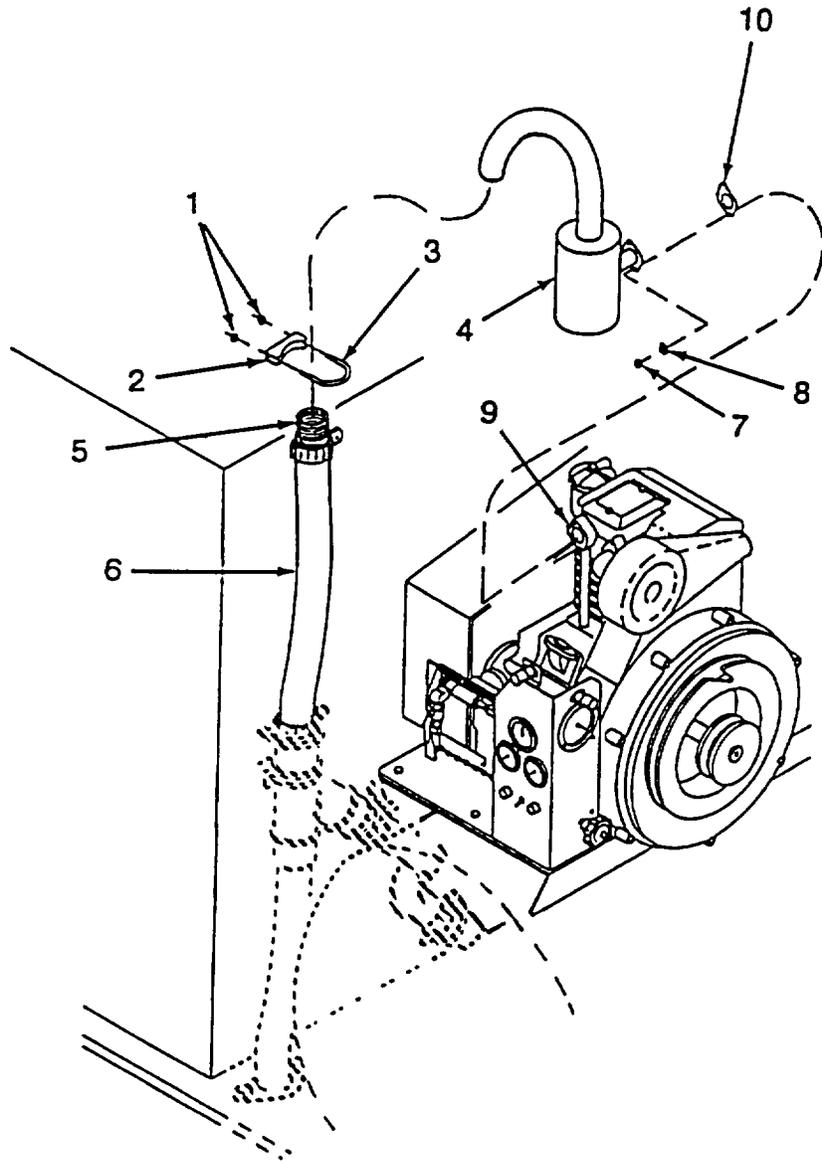

Figure 4-36. Exhaust System
## (1) Removal. (Refer to Figure 4-36).
- (a) Remove two nuts (1), muffler bracket (2) and U-clamp (3) from muffler (4).
- (b) Remove interflex hoses (5) and fiberglass sleeving (6) from muffler (4).
- (c) Remove two nuts (7) and two lockwashers (8) from engine exhaust studs (9) holding muffler assembly (4) and gasket (10).
- (d) Remove muffler (4) and gasket (10). Discard gasket (10).